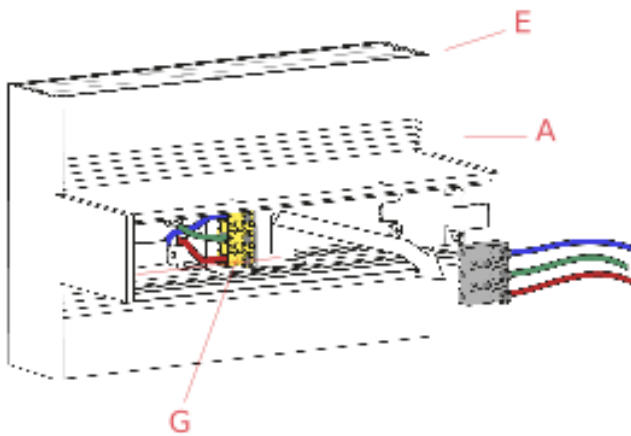

Fig.3
Disconnect the female connector (C) from the male connector (G). (Fig.3)